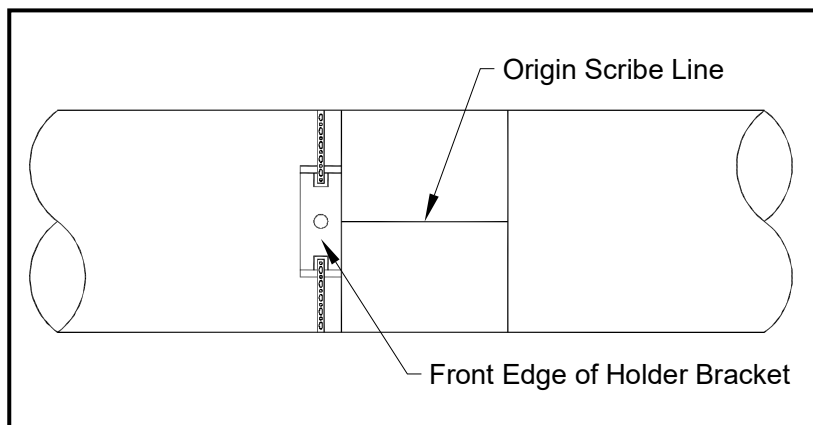
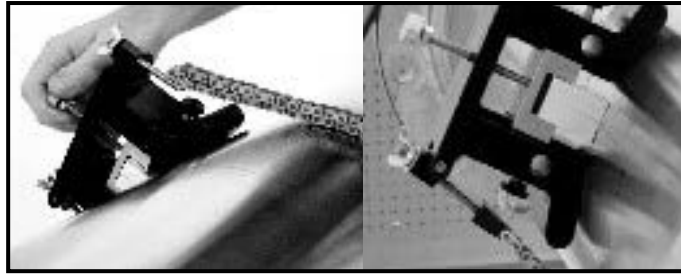

Figure 16: Lining up the First Bracket
Figure 17: Positioning the CFG-PI Holder Bracket
3. Line up one edge of the CFG-PI holder bracket with the origin scribe line and fully tighten the chain or strap (see *Figure 16* and *Figure 17* below).
4. Install the transducer dummy block to verify the circumferential and axial location. Center the indicator line on the block to line up with the scribed mark (see Figure 17 below).